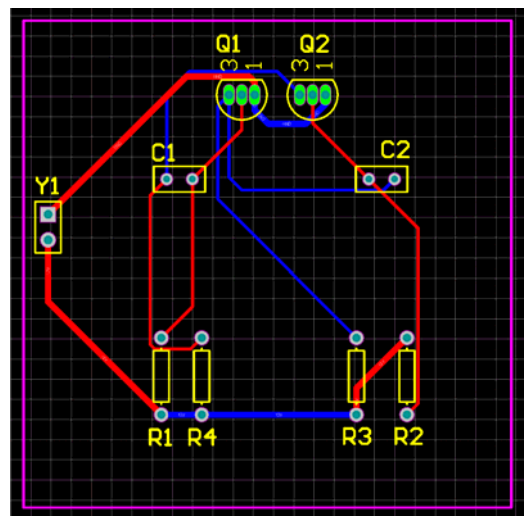

Figure 9. Manually routed board, with tracks placed on top and bottom layers.
6. Use either of the above methods to route between the other components on the board. Figure 9 shows a manually routed board.